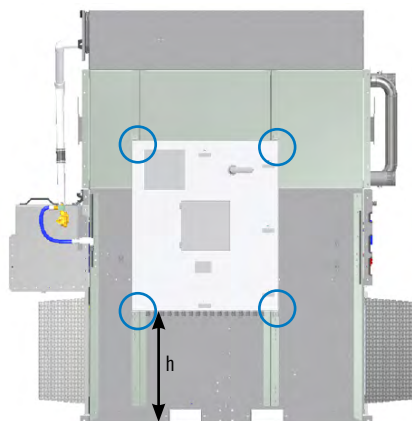

Figure 9c. Control Panel Mounting Height
2. Attach the control panel using the mounting holes at each corner. Ensure the dimension from the bottom of control panel to the bottom of unit is correct following the Table 4 "H" dimension (see Figure 9c).